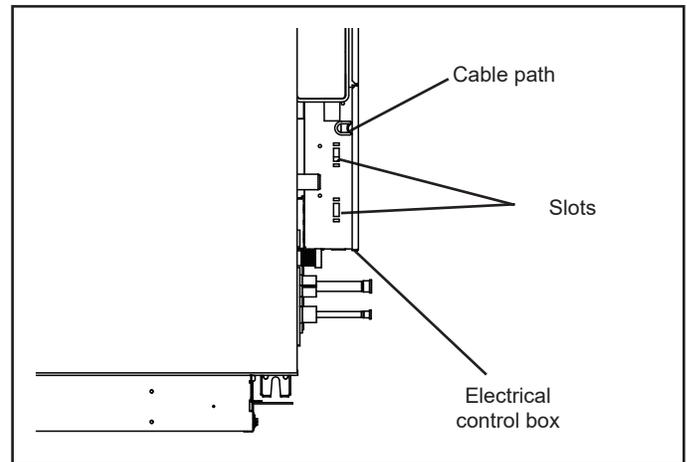

Figure 27. Receiver Mounting Location
3. Connect the 10-conductor wire of the receiver to the unit control board. Pass the wire through the cable path. See Figure 27.